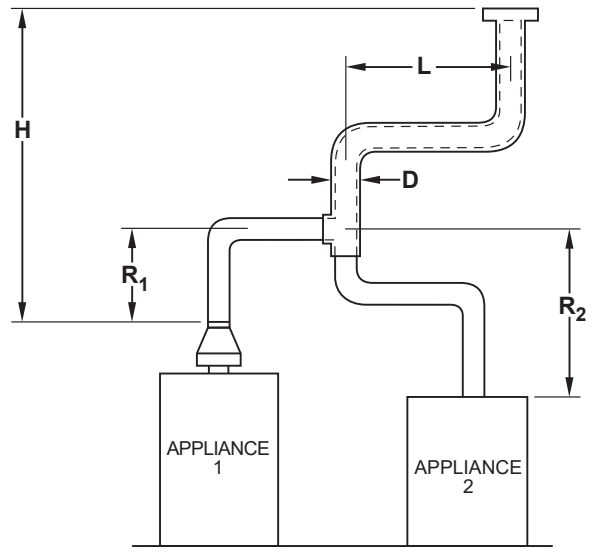

FIGURE 8
6) If the common vertical vent is offset as shown in Figure 8, the maximum common vent capacity listed in the common venting tables should be reduced by 20%, the equivalent of 2 (two) 90° elbows (0.80 x maximum common vent capacity). The horizontal length of the offset shall not exceed 1 1/2 feet for each inch of common vent diameter.